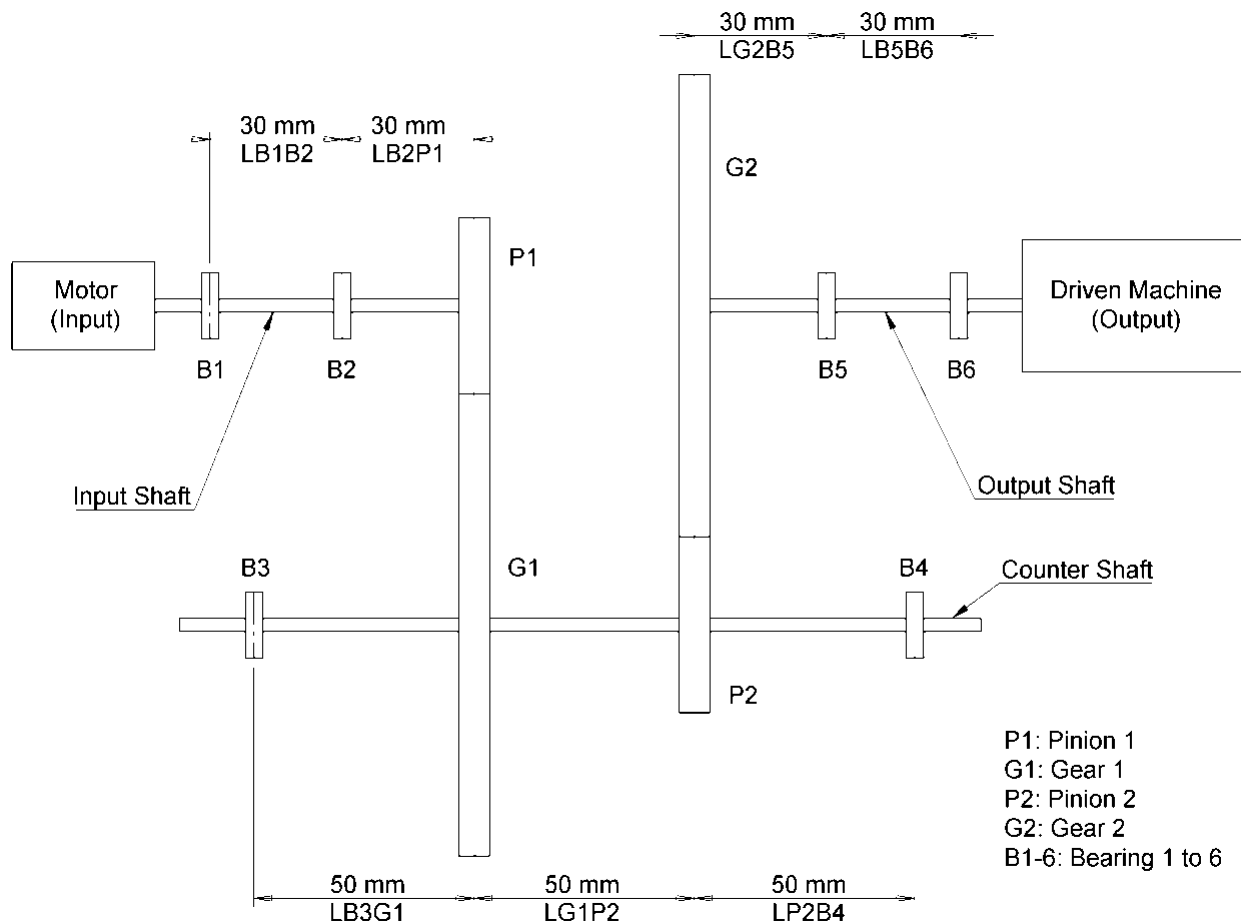

Figure 1. Schematic of a Two Stage Reverted Speed Reducer
The purpose of this exercise is to give you hands-on experience with the design of a two-stage reverted speed reducer (Figure 1). The following description details the requirements specific to your project.
- Shafts: steel, lengths, input, and output shafts are inline and overhung, and countershaft is straddle mounted (see Figure 1)